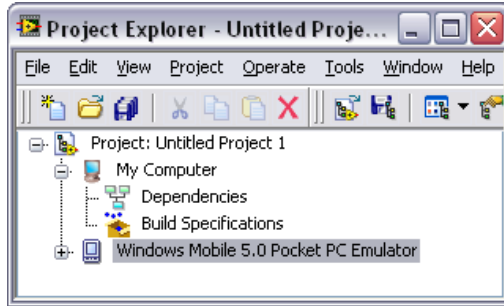

Figure 4. Adding the Windows Mobile 5.0 Pocket PC Emulator to the Project Explorer Window
- Click the **OK** button to add the target to the project. The target appears in the **Project Explorer** window as shown in Figure 4.